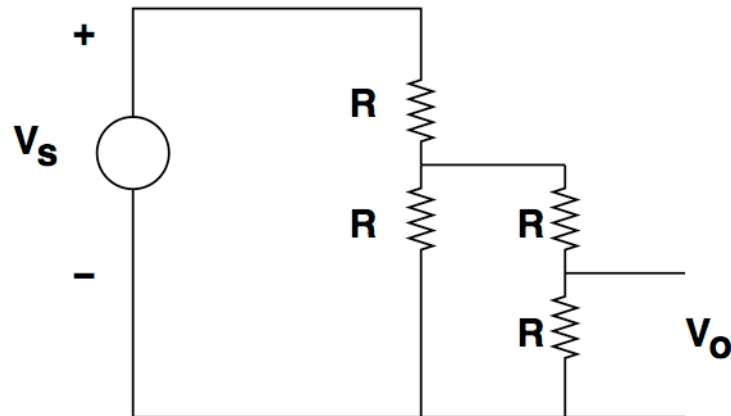

Figure 4: Two voltage dividers
**Question 4: Limits to modularity** Now build a second voltage divider using two resistors of the same value as your first divider, taking the output of the first divider as the input to the second, as shown in figure 4. Is the output of this what you expect?